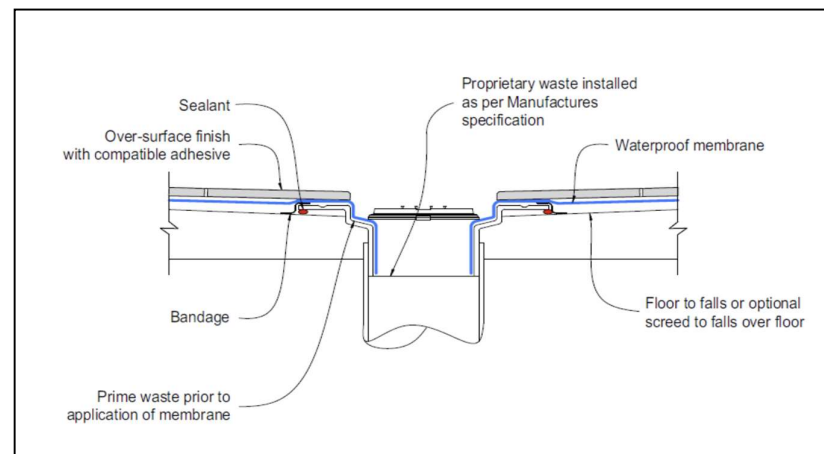

Figure 27: Waterproof membrane system into floor waste outlet
- ✓ Figure 27: Waterproof membrane system into floor waste outlet